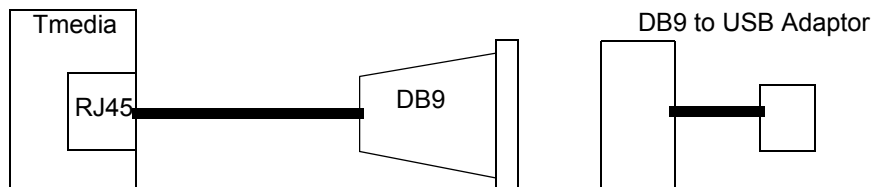

Figure 4.2 Conceptual View of a Serial Connection from the TMG3200 to a Computer
2. If your computer’s serial port features a DB9 connector, use the DB9 to RJ-45 adapter supplied with your TMG3200. If your computer’s serial port features a USB connector, you will need to provide a USB to DB9 adaptor. Refer to figure 4.2 on page 28.